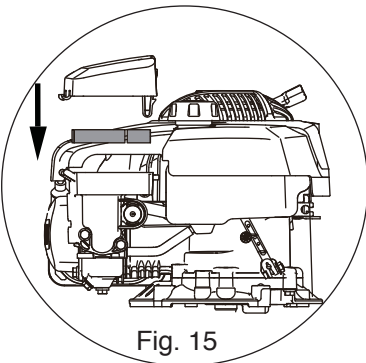

Fig. 15
2. Replace the air filter element. (Fig.15)